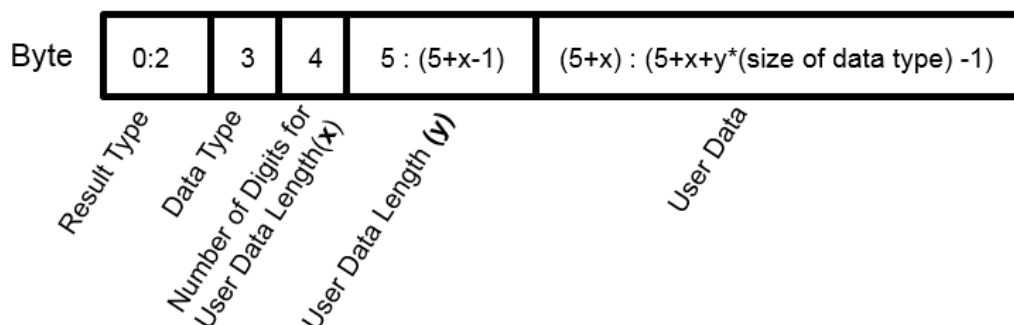

Figure 6-5: User-data-content format
- the content ('user-data-content'), see also Figure 6-5. These are as many bytes as 'LLLLL' specified